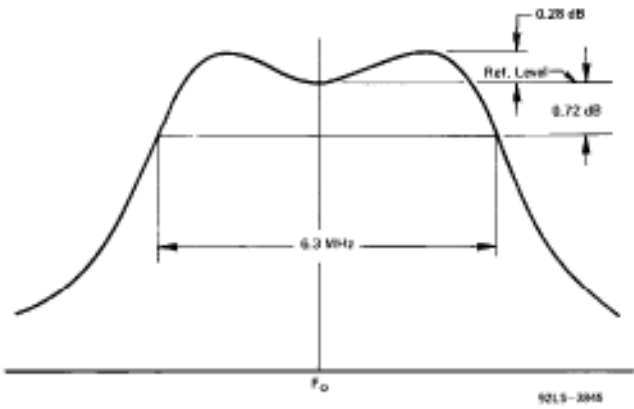

Figure 2 - Bandwidth Characteristics
- r The bandwidth of 6.3 MHz is calculated at the -0.72 dB power points of a double-tuned output circuit using two times the tube output capacity and a damping factor of  $\sqrt{1.5}$  as shown in **Figure 2**.